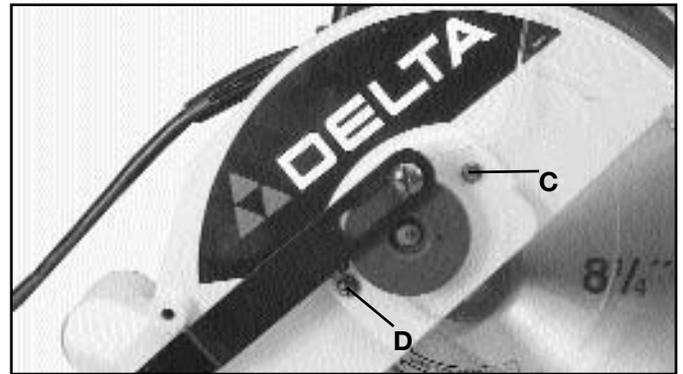

Fig. 8
4. Replace screw (C) Fig. 8, that was removed in **STEP 2**. Tighten screw (D) and screw (C).